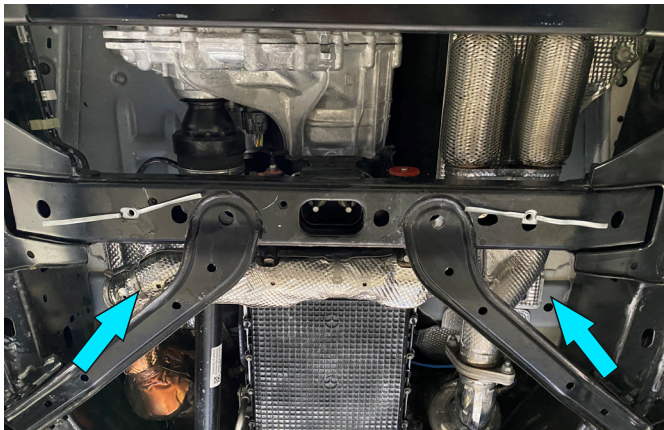

Fig. 3
3. Install M10 insert nuts (item F) on both sides of the factory crossmember as shown in fig.3. If there is a factory threaded hole on the passenger side (fig.4), install M10 insert nut (item F) only on the driver's side.